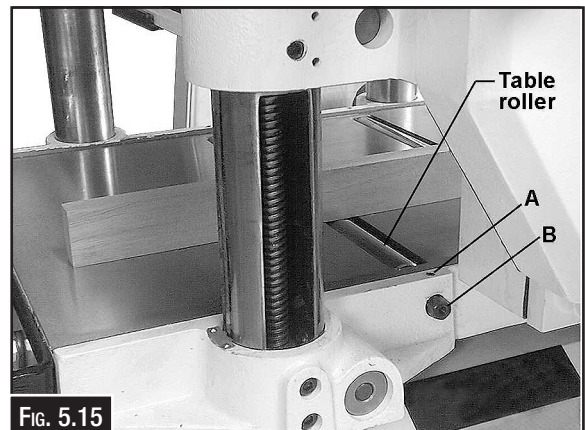

Fig. 5.15
The thicknesser planer is supplied with two table rollers (Fig. 5.15) which turn as the stock is fed into the machine, thus reducing friction. It is not possible to give exact dimensions on the proper height setting of the table rollers because each type of wood behaves differently. As a general rule, however, when planing rough stock the table rollers should be set at high position. When planing smooth stock the rollers should be set at low position.
3. On one side of the table, loosen the setscrews (A) (Fig. 5.15) with a 3mm hex wrench, and turn the eccentric shafts (B) (Fig. 5.15) to raise or lower the rollers.